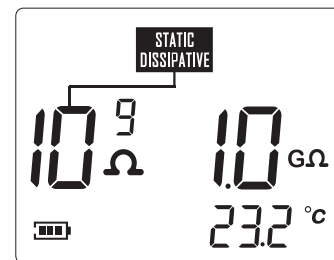

Figure 3
- c). For example: the resistance reading in Figure 3 is  $10^9 \Omega$ ,  $1.0 \text{ G}\Omega$ , the measured material is anti-static material;